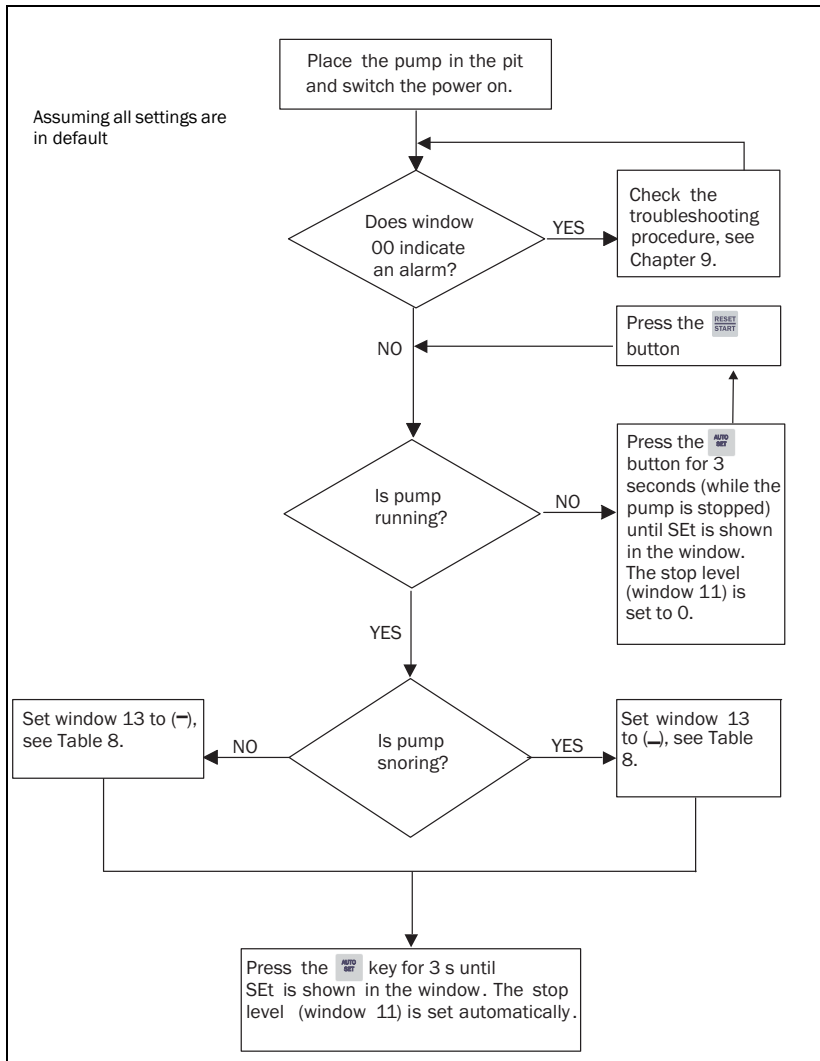
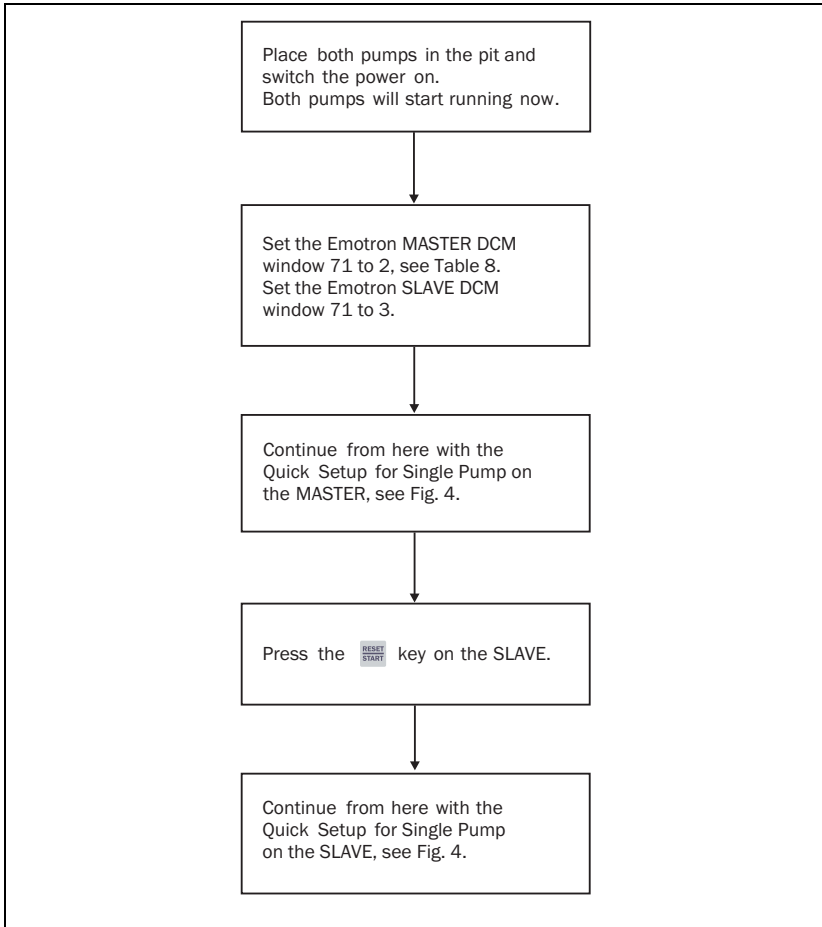

Fig. 4 Quick setup for single-pump system (the pump will start and stop during setup)
Fig. 5 Quick setup for dual-pump system (the pumps will start and stop during setup).
3. Follow Quick setup - flow chart Fig. 4, page 11 for single-pump system and Fig. 5, page 12 for dual pumps.